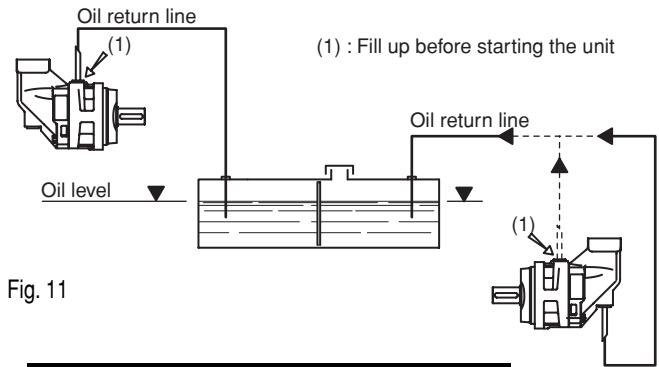

Fig. 11
- Motor body should never be without oil. Drain into the tank under the free surface or bend the pipe into a U (see fig. 11)